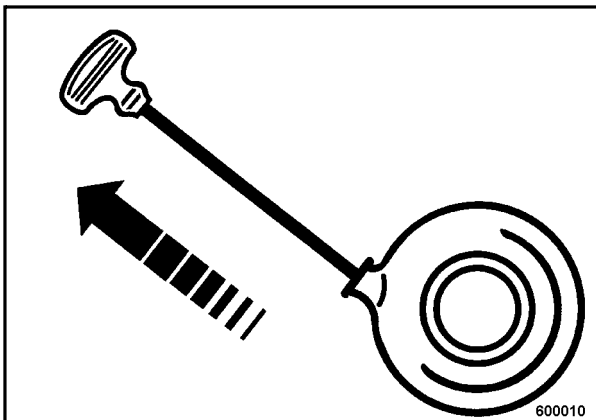

Fig. 5
- Pull the rope with the starter handle quickly and with power out as far as possible (Fig. 5).